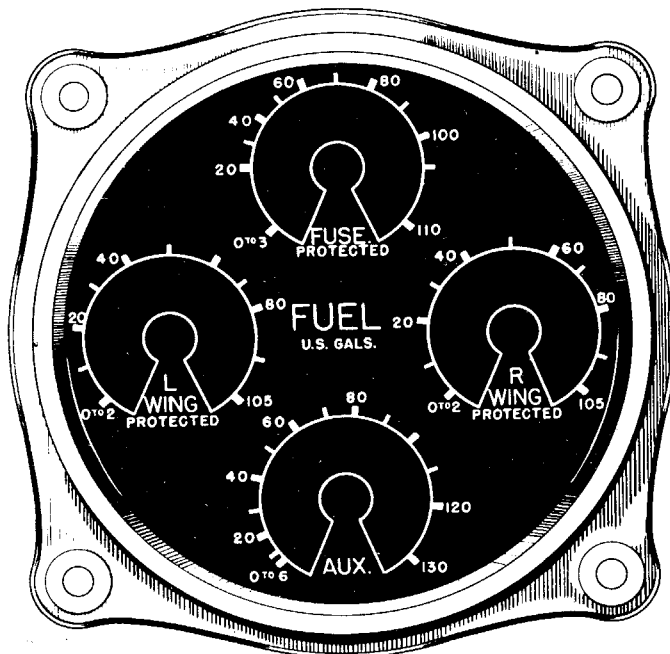

Figure 21 — Fuel Quantity Gage
(8) **FUEL QUANTITY GAUGE.**—The quantity gauge (see figure 21), is located on the main instrument panel, and indicates the amount of fuel contained in the "FUSE," "R WING," and "L WING" protected fuel cells, and in the "AUX" bomb bay tank. Since no provision is made for indicating the